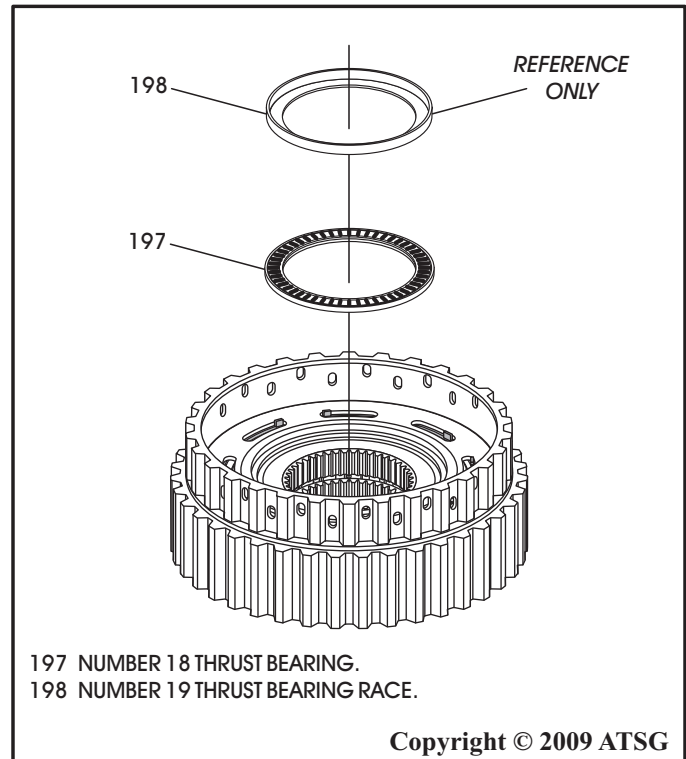

Figure 162
14. Install the number 18 thrust bearing with the needles facing up, as shown in Figure 162, and retain with small amount of Trans-Jel®.